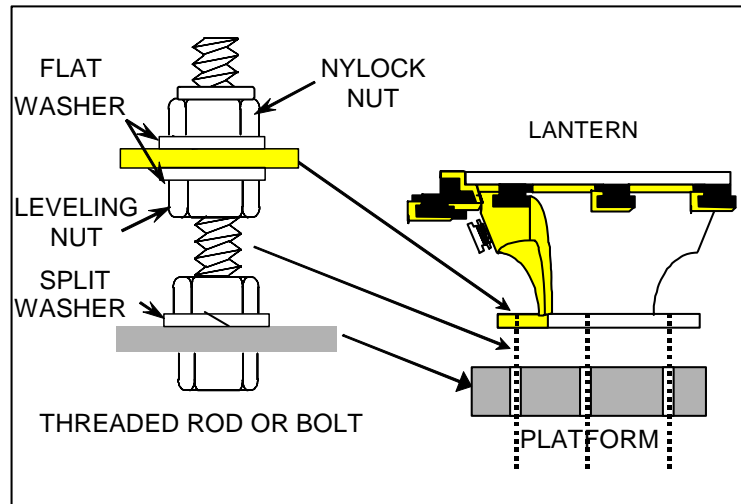

Figure 3-19
- a. Install three ½" threaded rods or bolts on the platform as shown in Figure 3-19. Add the leveling nut and flat washer at this time.